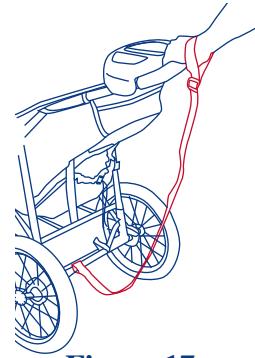
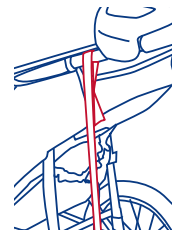

Figure 17.
Figure 18.
- Always connect the safety strap to either wrist when jogging. This strap will keep the stroller from rolling away in the event that you trip while running. See figure 17. The safety strap must remain connected to the rear lower frame cross member at all times. This location is intended to prevent the stroller being tipped backward in the event that you do fall to the ground. The safety strap includes a Velcro attachment for storage, on the left side of the stroller, when not in use. See figure 18.